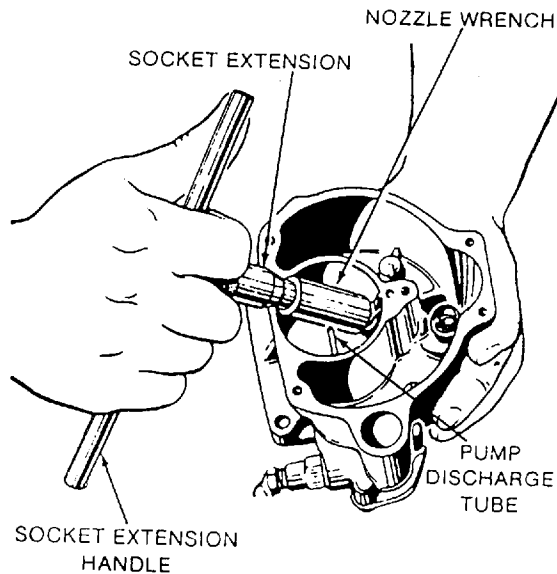

FIGURE 5
- 20) Remove idle tube (48) and drain plug (49).
- 21) Remove nozzle (50), safety washer (51), and nozzle gasket (52). See Figure 5.
- 22) Remove pump discharge check valve assembly (53), safety washer (54), and gasket (55). NOTE: Do not disassemble the pump discharge valve (53).
- 23) Remove pump inlet retainer screws (56), safety washers (57), retainer flange (58), strainer housing (59), gasket (60), screen (61), and inlet check valve assembly (62). Pump discharge tube (Figure 5) seldom needs service or removal. If it is damaged or loose pull it carefully out of its casting counter bore and discard.